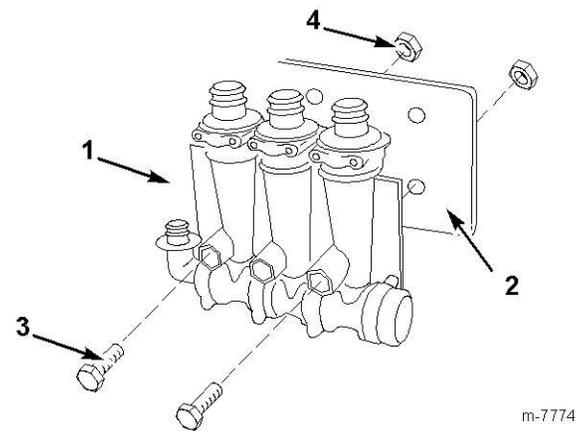

Figure 12
2. Install the flowmeter to bracket with two bolts (1/4 x 2 inch), and two locknuts (1/4 inch) as shown in Figure 12.